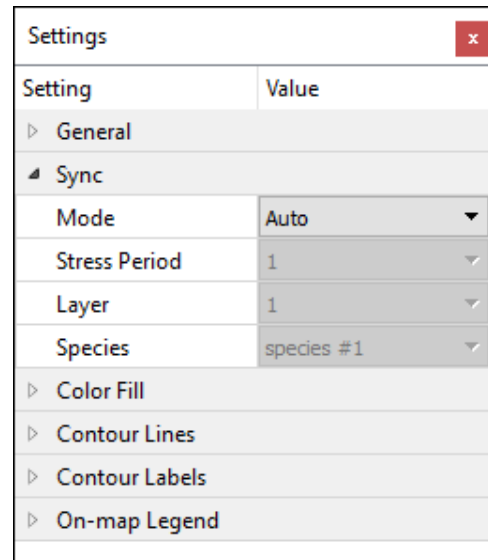

Figure 121. The Sync group of the Settings window for Contour Maps
2. **Sync** (Figure 121): The settings of this group control what data is displayed.